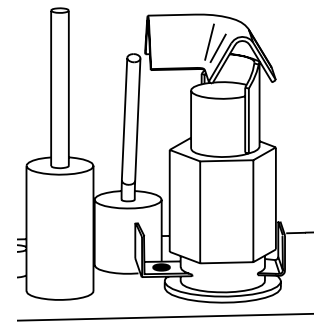

Figure 23. Integrated dual-fuel pilot orifice - LP position shown.
10. **CHANGE THE INTEGRATED DUAL-FUEL PILOT ORIFICE:** Use the 7/16" wrench to just loosen the pilot head enough to push in the adjustment slide. See fig. 23.